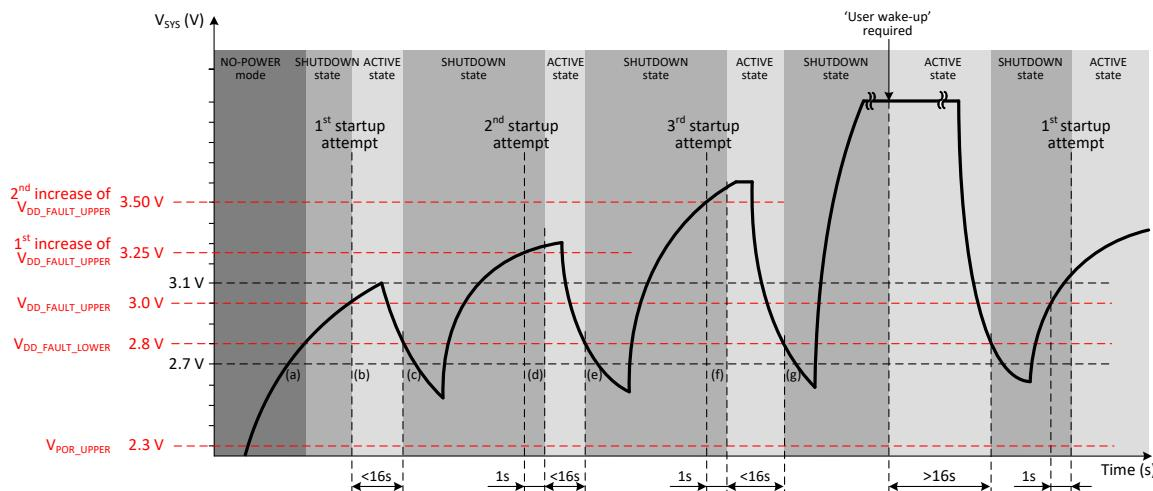

Figure 14: VDD\_START Faults
The DA9063 VDD\_START feature prevents endless looping of false starts in a weakly-powered system. VDD\_START limits the number of automatic restart attempts to three. With reference to Figure 14:
- Figure 14\(a\): The PMIC starts from NO-POWER mode.
- Figure 14\(b\): First startup attempt. The PMIC transitions to the ACTIVE state when  $V_{SYS}$  rises above  $V_{DD\_FAULT\_UPPER}$ .
- Figure 14\(c\): If, during the first startup attempt, the  $V_{SYS}$  supply drops below  $V_{DD\_FAULT\_LOWER}$  for more than 100 ms, the PMIC shuts down to the SHUTDOWN state.  $V_{DD\_FAULT\_UPPER}$  is increased automatically by 250 mV. However, the increased  $V_{DD\_FAULT\_UPPER}$  is limited to a maximum of 3.70 V.
- Figure 14\(d\): Second startup attempt. If  $V_{SYS}$  rises above the new  $V_{DD\_FAULT\_UPPER}$  threshold, then the PMIC will power-up to the ACTIVE state.
- Figure 14\(e\): If, during the second startup attempt, the  $V_{SYS}$  supply drops below  $V_{DD\_FAULT\_LOWER}$  for more than 100 ms, the PMIC shuts down to the SHUTDOWN state.  $V_{DD\_FAULT\_UPPER}$  is increased automatically by a further 250 mV (500 mV above its original setting). However, the increased  $V_{DD\_FAULT\_UPPER}$  is limited to a maximum of 3.70 V.
- Figure 14\(f\): Third startup attempt. If  $V_{SYS}$  rises above the new  $V_{DD\_FAULT\_UPPER}$  threshold, then the PMIC will power-up to the ACTIVE state.
- Figure 14(g): If, during the third startup attempt, the  $V_{SYS}$  supply drops below  $V_{DD\_FAULT\_LOWER}$  for more than 100 ms, the PMIC shuts down. From then on, AUTO\_BOOT and wake-up from non-user events are temporarily disabled. 'User events' are defined in Table 40.